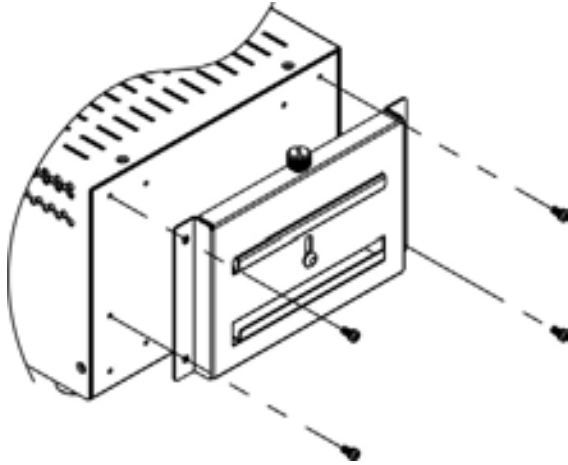

Figure 5-14: DIN Rail Mounting Bracket
- Step 1:** Attach the DIN rail mounting bracket to the rear of the monitor. Secure the bracket to the monitor with the supplied retention screws (**Figure 5-14**).